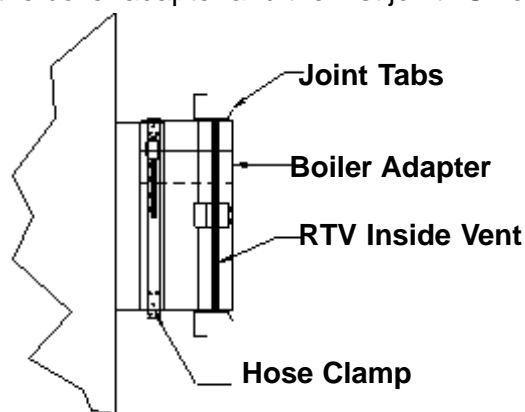

Figure 4
3. Apply a 1/4" bead of RTV sealant to the inside of the female end of the boiler adapter, 3/4" from the edge, *figure 4*. Make a continuous, straight-line bead, not a zig-zag pattern when applying the sealant.